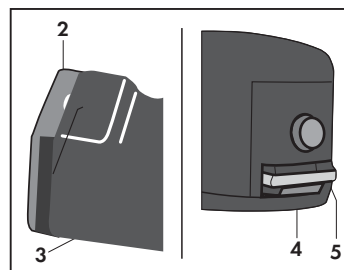

Fig. 9
- Close the door (2) so that the flap rests on the quick connection (3); make sure that the two parts (4-5) are properly fastened (Fig. 9). This socket allows for steam and detergent delivery and/or vacuuming.